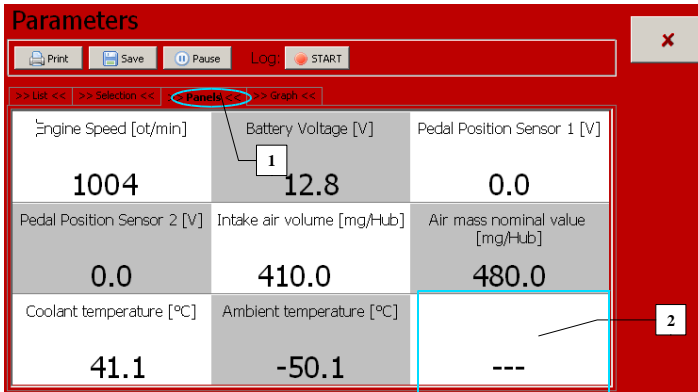

Figure 5.13
Another useful feature is displaying parameters on panels. This type of displaying can be started by pressing the Panels tab (Figure 5.13 - 1). Maximum number of displayed parameters is 9, if you have selected more than 9 parameters only the first 9 of them are displayed. If there are less than 9 parameters selected the remaining panels are filled with dashes (2).